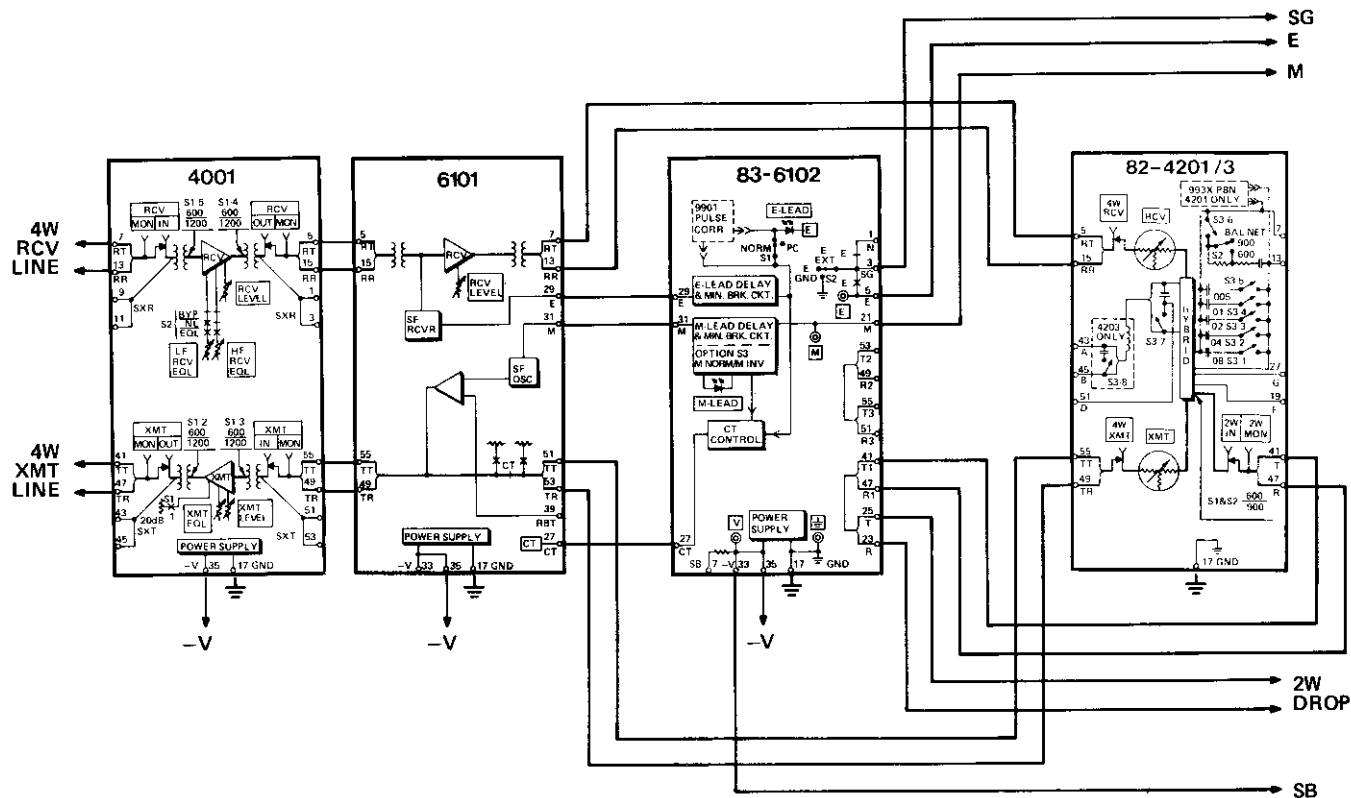

figure 7. Wiring diagram showing necessary connections for a typical SF signaling application
3.06 A typical application of the 6102 involves its use in an SF signaling and terminating system with a 4001 Line Amp interfacing the facility and a 420X Term Set interfacing the station. Figure 7 shows the connections required in this application. Note that if the 6102 is provided in a Type 260 or 261 Signaling and Terminating System, all necessary connections are prewired as part of the System's universal wiring scheme.